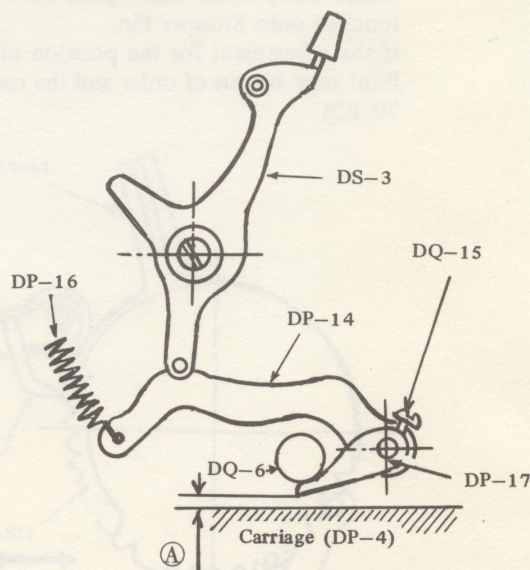

Fig. 83
Adjust the clearance (A) between DP-17 (Feed Roller Operating Lever) and DP-4 (Carriage Unit) to 1.6 to 1.8 mm under Paper Release condition by DP-17 with loosening DQ-15 (Screw). (Fig. 83)